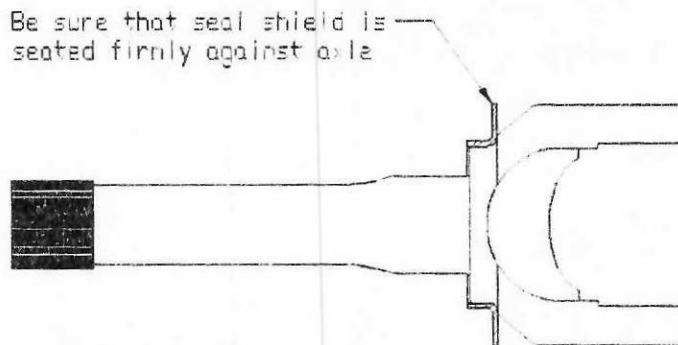

Figure 5. Stub axle and seal shield.
10. Install shield to outer axle shaft (both components supplied with kit). See figure 5.